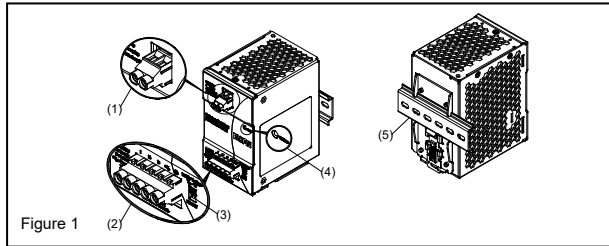

Figure 1
2. Device description (Fig. 1)